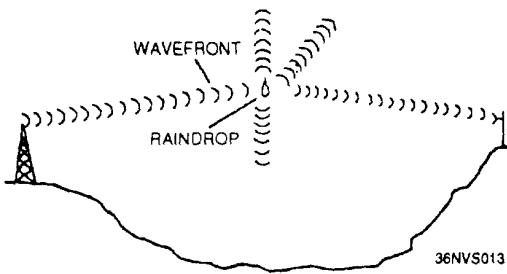

Figure 1-13.—Rf energy losses from scattering.
**RAIN.**—Attenuation because of raindrops is greater than attenuation for any other form of precipitation. Raindrop attenuation may be caused either by absorption, where the raindrop acts as a poor dielectric, absorbs power from the radio wave and dissipates the power by heat loss; or by scattering (fig. 1-13). Raindrops cause greater attenuation by scattering than by absorption at frequencies above 100 megahertz. At frequencies above 6 gigahertz, attenuation by raindrop scatter is even greater.